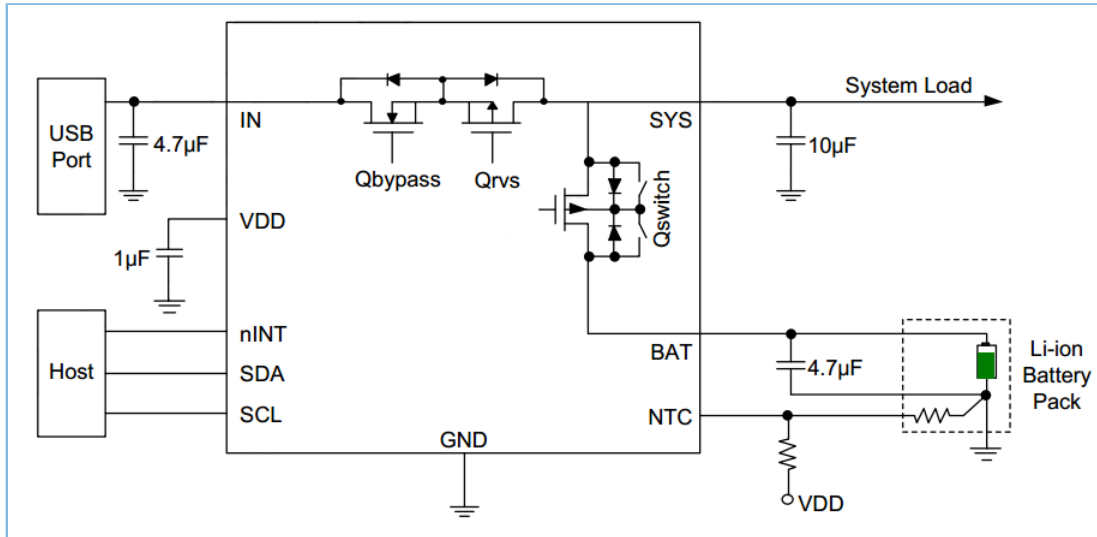

Figure 3-3 Reference design for charger with PPM
- To use a charger that supports system power path management, follow the recommended circuit design in Figure 3-3.